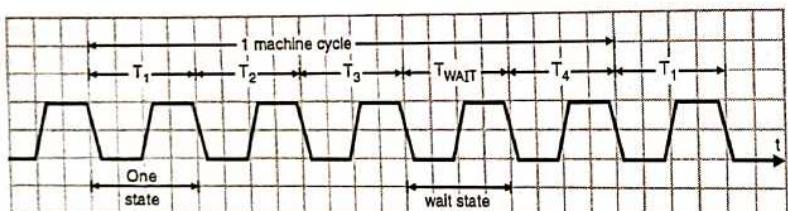

Fig. 3.6.1 : Clock, T-state, machine cycle etc.
- The smallest unit of time in the microprocessor timing is the T-state. It comprises of a falling edge, low level, rising edge and a high level. In figure 3.6.1, T₁ or T₂ are each a T-state.